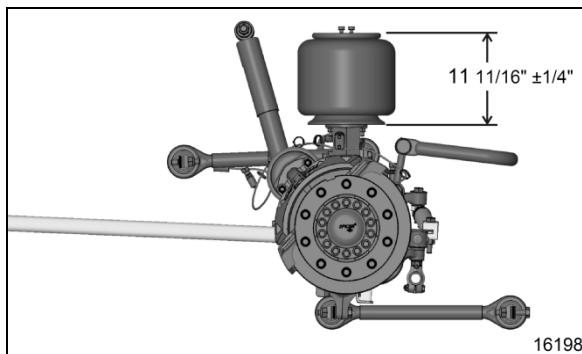
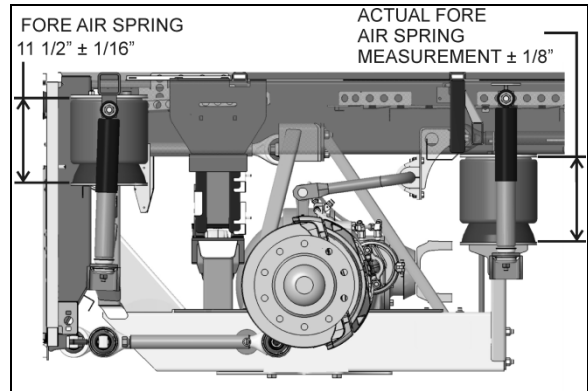
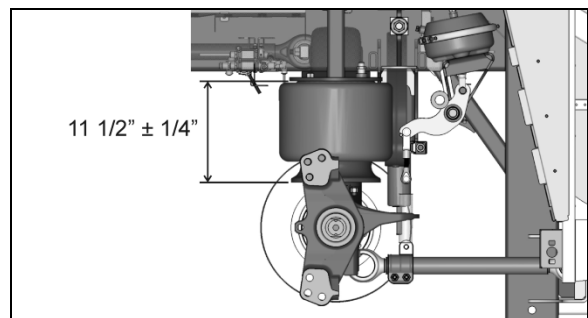

FIGURE 17: FRONT I-BEAM AXLE AIR SPRING CLEARANCE
FIGURE 18: DRIVE AXLE AIR SPRING CLEARANCE 16195
FIGURE 19: TAG AXLE AIR SPRING CLEARANCE 16195
The appropriate vehicle body height is obtained by measuring the clearance of all the air springs installed on the vehicle. Refer to Figure 17, Figure 18, Figure 19, to identify the correct area to take measurement and proper value. At this point, it should not be necessary to make an adjustment under normal service conditions. However, if an adjustment is required, change the position of the overtravel lever in relation to the overtravel control body. The lever should be moved up to raise vehicle height, and down to lower it. Check that main air pressure is at normal operating pressure and raise the vehicle to the specified height.
The measurement should be taken from underneath the upper air spring support on subframe to top of the lower air spring support on axle (refer to Figure 17 for more details). If adjustment is required, begin with the drive axle.
- With the vehicle at normal operating air pressure [122 - 140 psi], measure air spring clearance. This clearance should be as per Figure 18 and Figure 19.